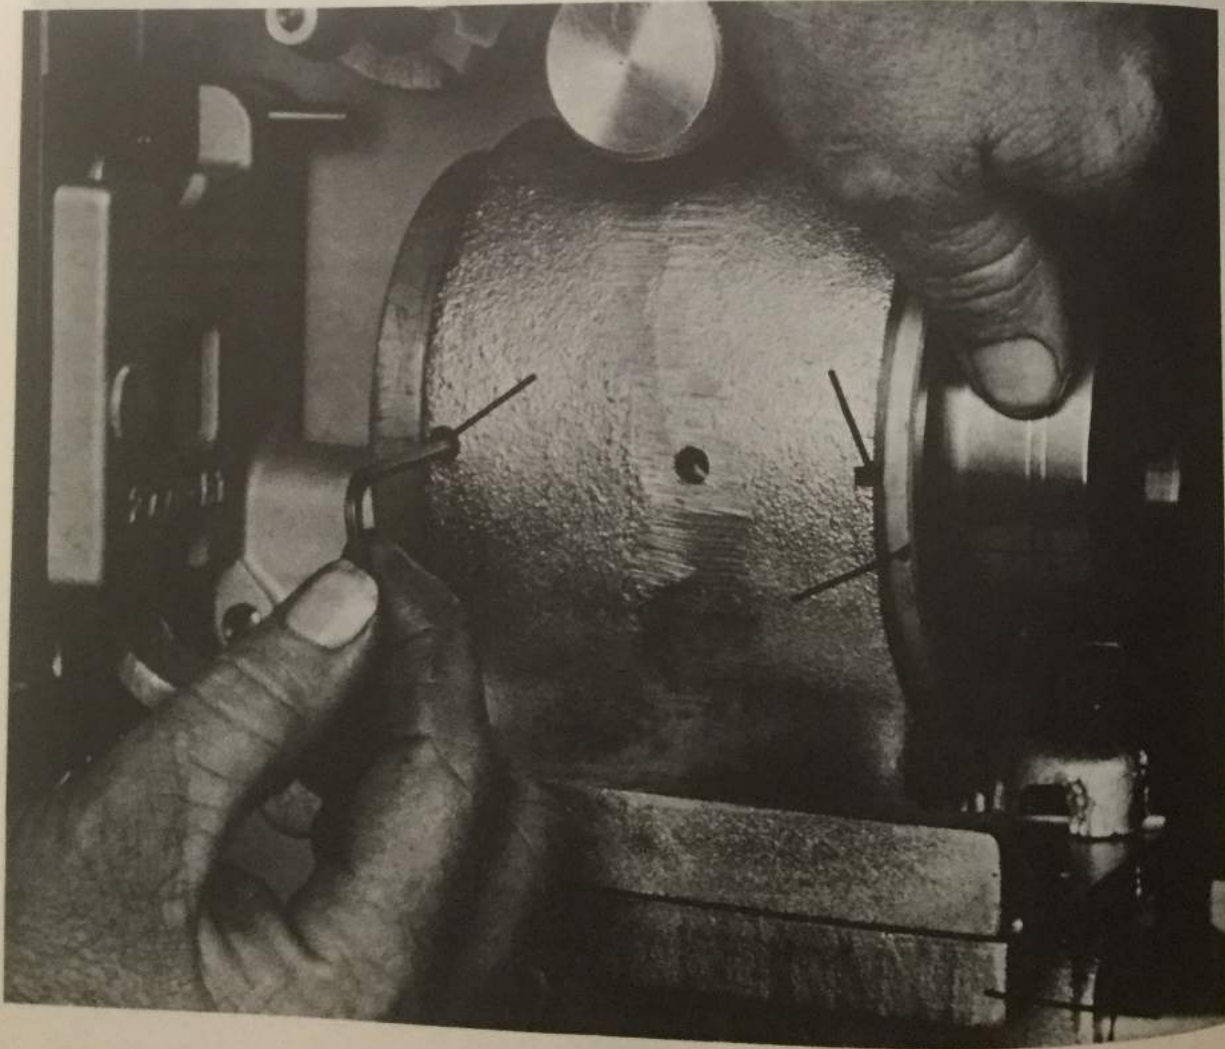

FIG. 5
1. Each PRO-35 Projector is supplied with two lens adaptors (See Fig. 5). Insert lens adaptor in lens mount making certain that the pin on the lens adaptor fits into the guided slot in the lens mount. In this position, an Allen Set Screw will be in direct line with the hole in the lens mount so that lens can be anchored.